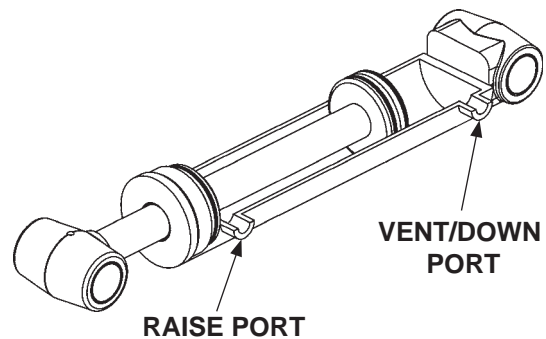

FIG. 35-1
4. Check the hydraulic cylinder. With the platform on the ground, remove the breather plug or vent line from the vent/down port of the cylinder (**FIG. 35-1**). Raise the platform even with the bed. Allow pump motor to run two seconds more while you watch for hydraulic fluid at the vent/down port. A few drops of hydraulic fluid escaping the vent/down port is normal; however, if it streams from the vent/down port, piston seals are worn. Replace seals.